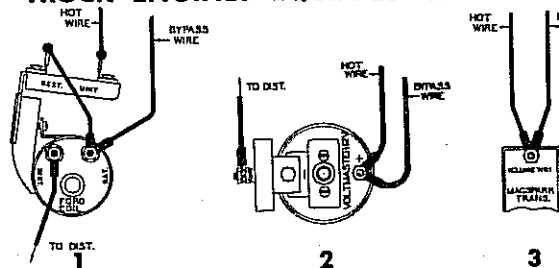

Figure 2A
1. When installing the Voltmaster 12-volt Coil, connect both wires from the original Ford coil and resistance unit to the positive (+) terminal of the Mallory Voltmaster Coil (see Figure 2A-2).
2. When installing the 12-volt negative ground Magspark Transformer connect both wires from the original Ford coil and resistance unit to the terminal marked "Ignition Switch" on the Magspark Transformer (see Figure 2A-3).